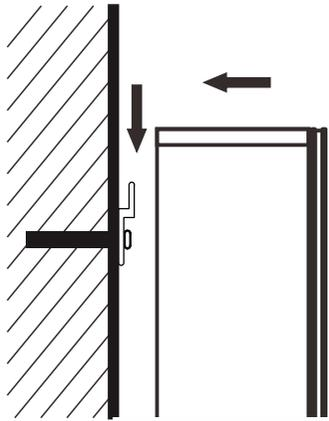
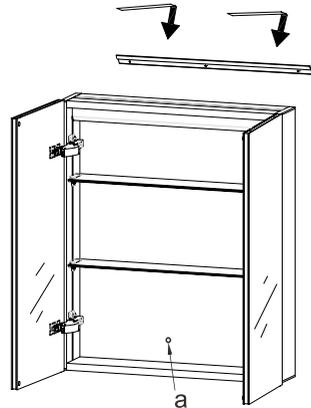
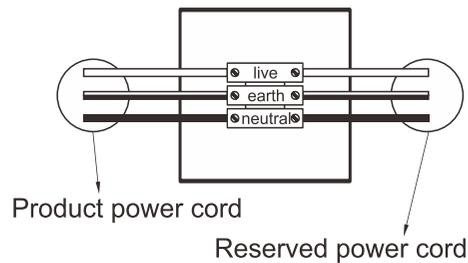

Fig. 3
Fig. 4
Fig. 6
2.1 Attach the mirror cabinet to the bar as shown in Fig. 3, open the cabinet door, and mark on the wall with a pencil (Fig. 4) through the backplane hole (a).
2.3 Repeat the operation as shown in Fig. 3 and mount the mirror cabinet to the bar, make sure that the circuit on the wall is not energized and connect the three-core wire reserved on the wall to the three-core wire terminal block on the product (Fig. 6), and then tighten the screws on the backplane.